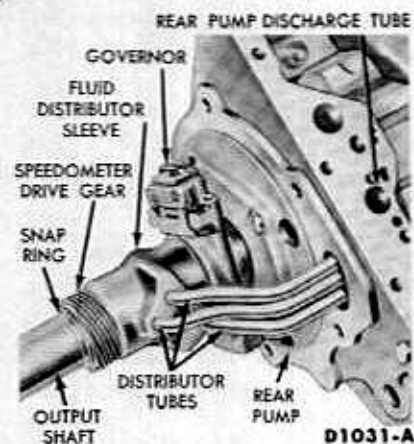

FIG. 3—Output Shaft, Governor, and Rear Pump
3. Remove the speedometer drive gear snap ring (Fig. 3) from the output shaft without moving the speedometer drive gear. Place one hand under the output shaft below the speedometer drive gear. Then remove the speedometer drive gear. If the drive gear drive ball does not fall out, remove the ball from the seat in the output shaft.